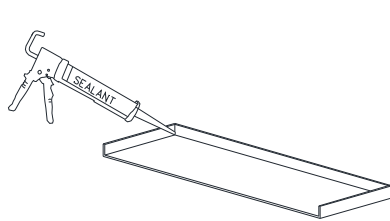

Figure 9:
- Apply sealant in all corners and seams of the sillpan (Figure 9).